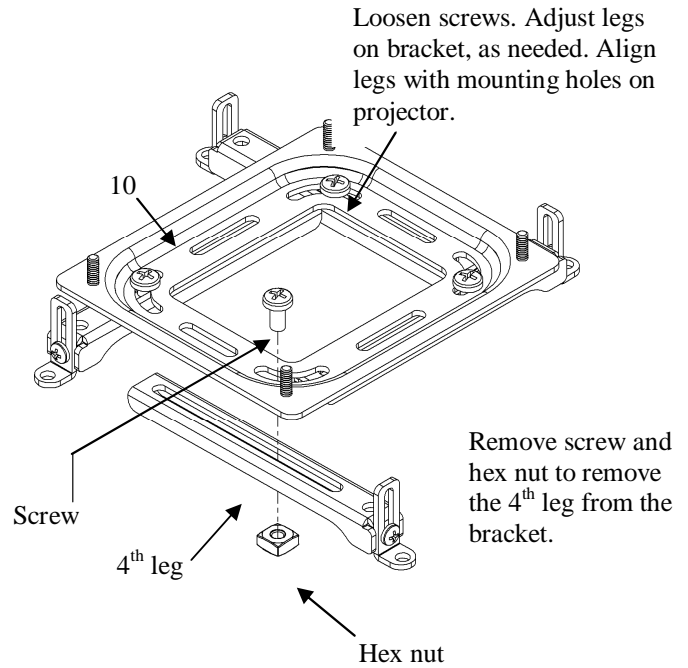

Figure 8. Align the SLBO/SLMO on 3-Hole Projector (SLBO Shown)
2. Using a Phillips screwdriver, remove the screw, hex nut, and one adjustable leg from the SLBO/SLMO (10) (see Figure 8).